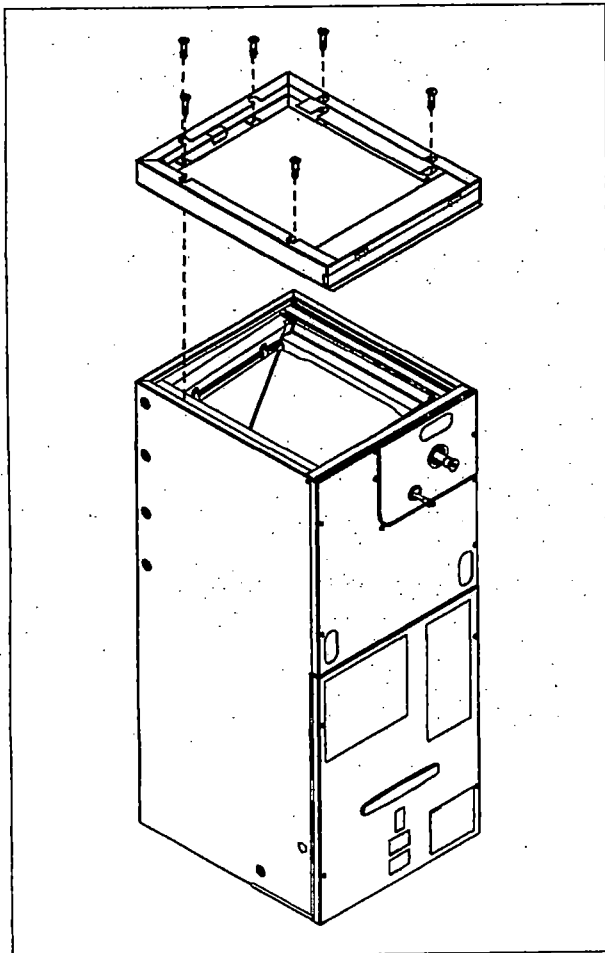

Fig. 2 - Attach frame assembly to air handler.
Step 3 - Align the filter frame assembly for a flush fit with the back of the air handler, and the filter frame door facing the front of the air handler cabinet. Using Phillips pan head screws, attach the frame assembly to the bottom of the air handler cabinet. (Fig.2)